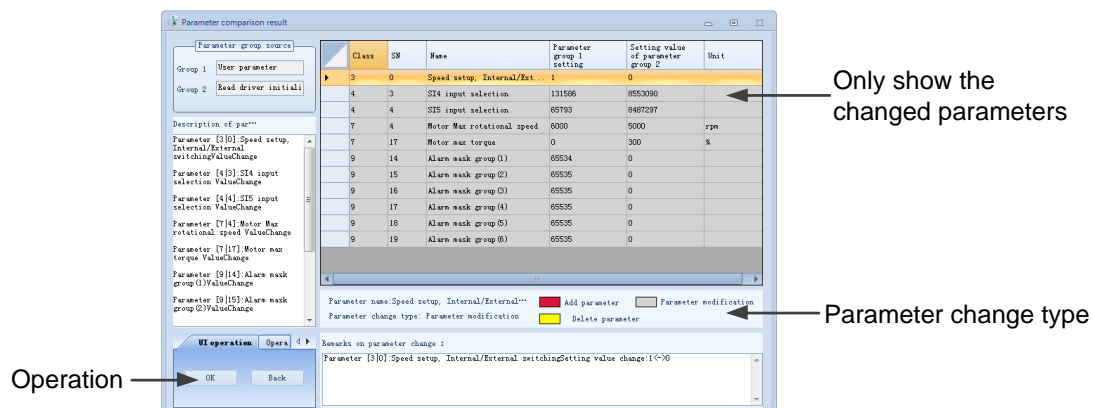

Fig. 3-4 Parameter comparison result window
3. Click “OK” to show comparison results (see Fig. 3-4).